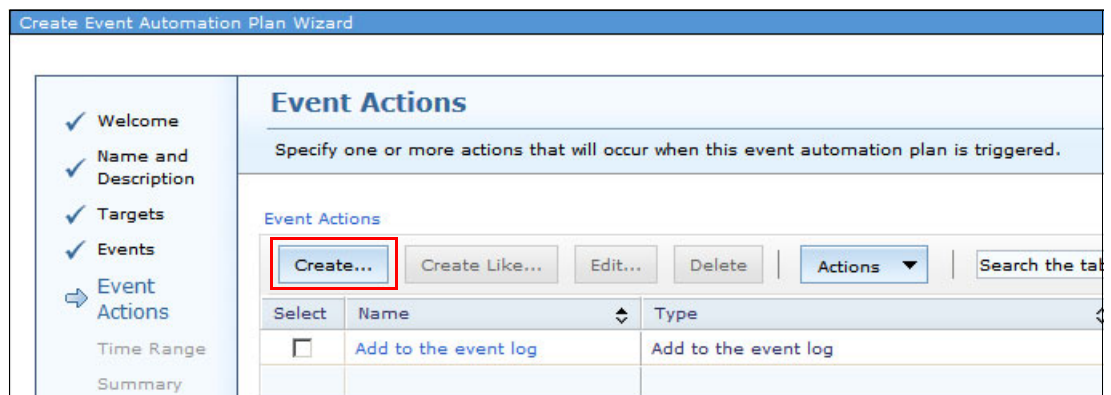

Figure 7-21 Create Event Automation Plan Wizard Event Actions window
- The Event Actions window opens (Figure 7-21). Click **Create** to define a new event action.